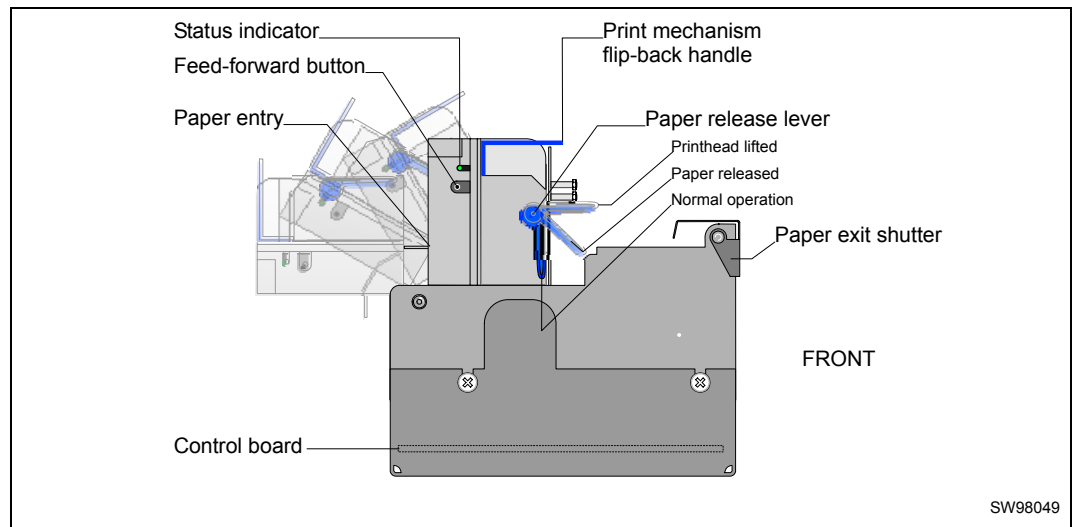

Figure 1. Printer exterior, side view
- The yellow status indicator (see Figure 1) has several functions: